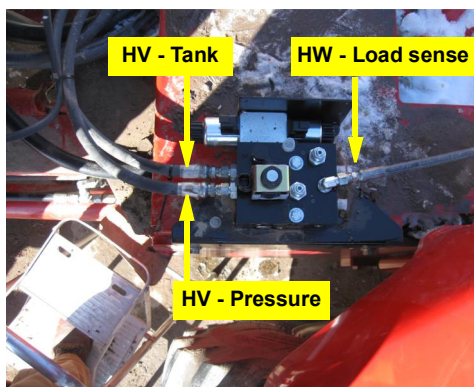

Figure 4-1c: P, T and LS hoses connected to steering block
c. Connect the pressure and tank hoses **HV**, connected to the valve stack in step 3a, and the load sense hose **HW**, connected to the load sense shuttle at step 3b, to the **P**, **T** and **LS** ports of the hydraulic steering block (Figure 4-1c).